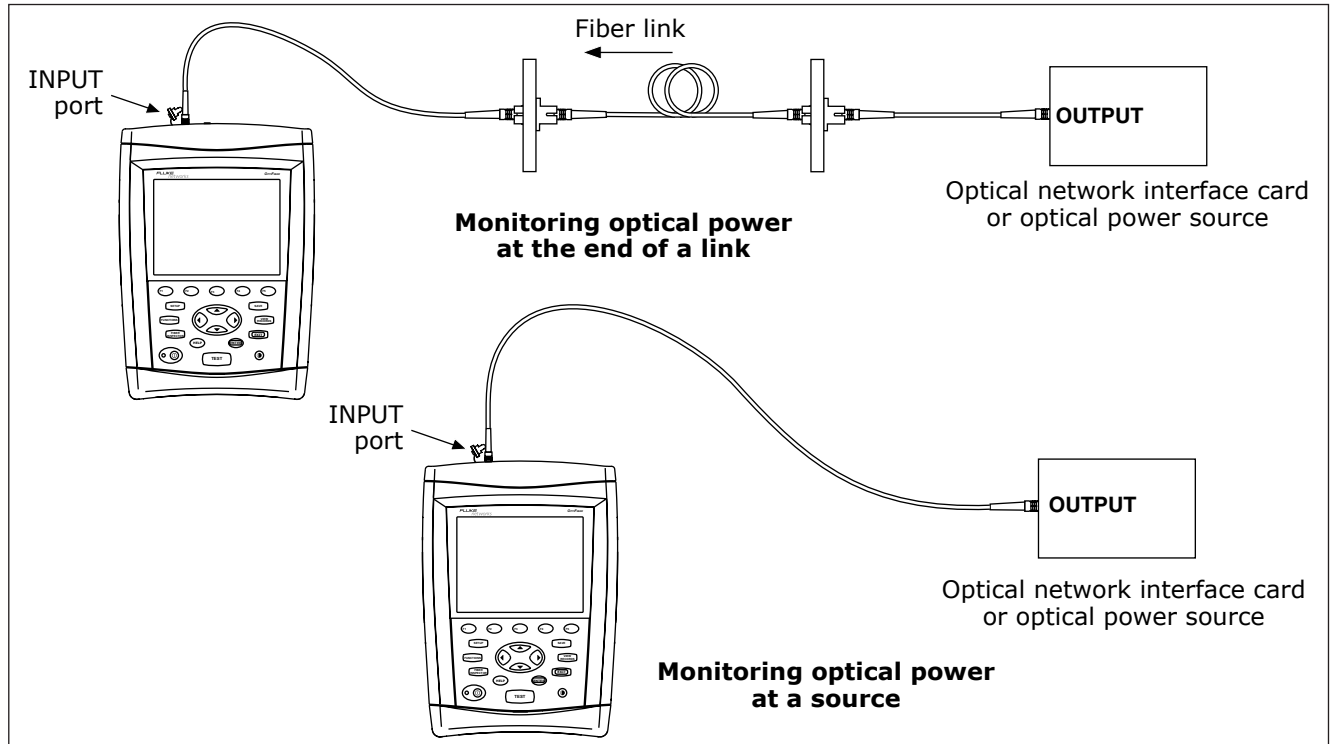

Figure 31. Connections for Monitoring Optical Power
- 3 Use the patch cord to connect the source to the tester's INPUT port as shown in Figure 31.